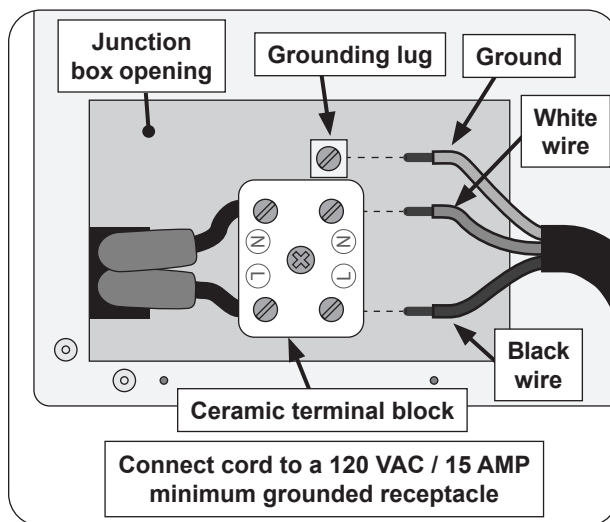

Fig. 2-3 Wire connection diagram
2. Take the power cord / junction box assembly and connect the wires to the ceramic terminal block using a flathead screwdriver to fully secure. Reference the wiring information below and Fig. 2-3.